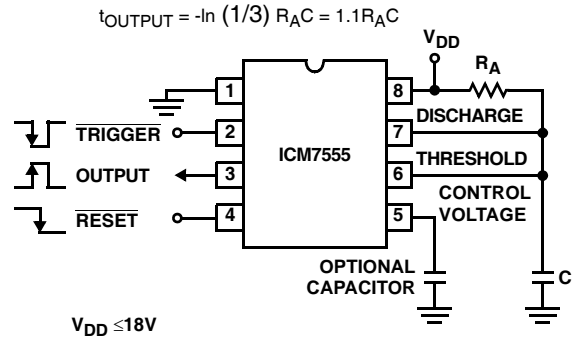

FIGURE 3. MONOSTABLE OPERATION
In this mode of operation, the timer functions as a one-shot. See Figure 3. Initially the external capacitor (C) is held discharged by a transistor inside the timer. Upon application of a negative $\overline{\text{TRIGGER}}$ pulse to pin 2, the internal flip-flop is set which releases the short circuit across the external capacitor and drives the OUTPUT high. The voltage across the capacitor now increases exponentially with a time constant $t = R_A C$. When the voltage across the capacitor equals $2/3 V+$, the comparator resets the flip-flop, which in turn discharges the capacitor rapidly and also drives the OUTPUT to its low state. $\overline{\text{TRIGGER}}$ must return to a high state before the OUTPUT can return to a low state.